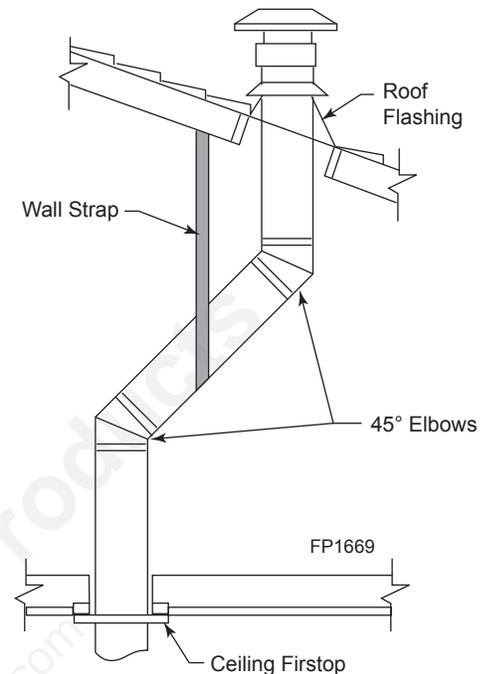

Figure 33 - Offset with Wall Strap and 45° Elbows
1. Determine the route your vertical venting will take. If ceiling joist, roof rafters or other framing will obstruct the venting system, consider an offset. Refer to Figure 33 to avoid cutting load bearing members.